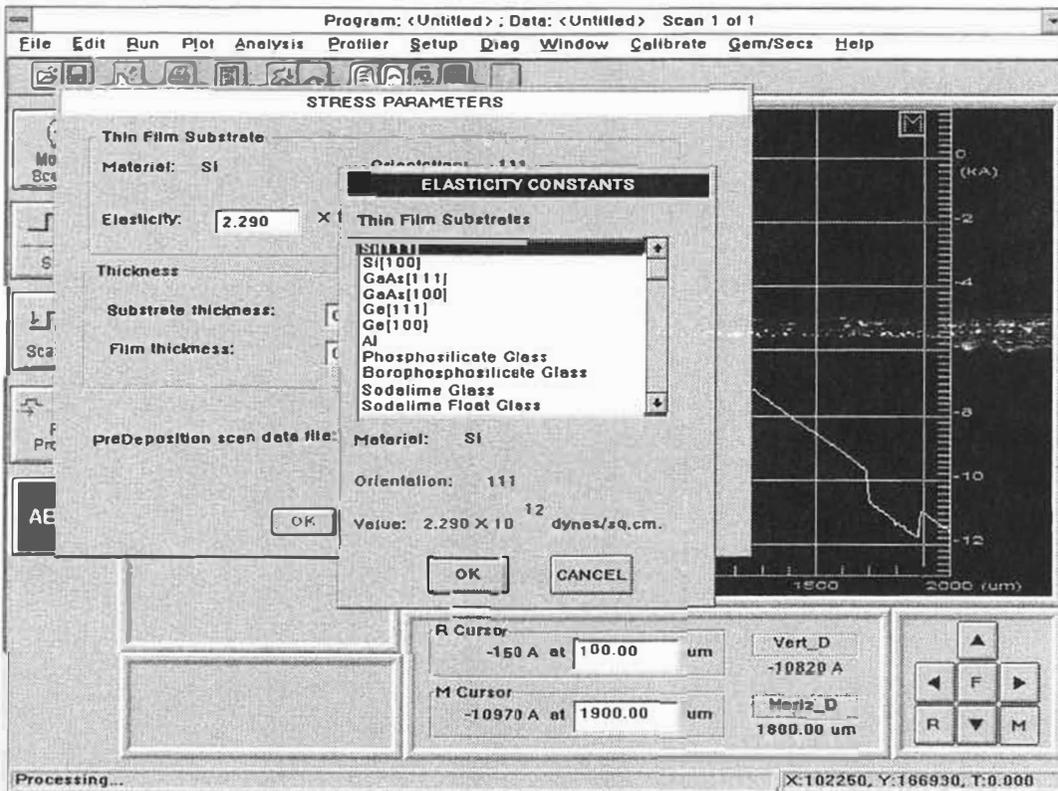

Figure B-1. Stress Options Menu
4. The "Thin Film Substrate" portion of the stress dialog box displays the material, orientation, and elasticity of the thin film substrate. Several options are stored in memory to compute stress in a variety of applications. To view the preprogrammed thin film substrate selections click-on "Options." The Options menu will be displayed (see Figure B-1).